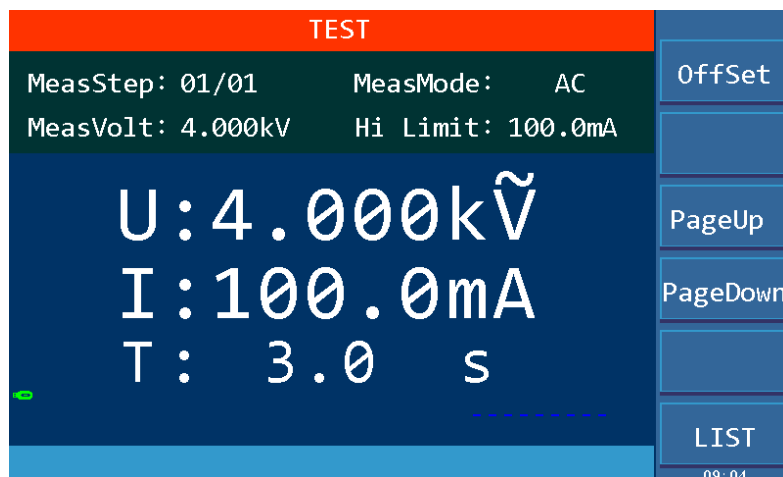

Figure 4-17.1 AC Test Interface
1. Press **[[TEST]]** to enter the AC Test interface as shown in Figure 4-17.1.
See Figure 4-17.1 ~ Figure 4-17.5 for details.